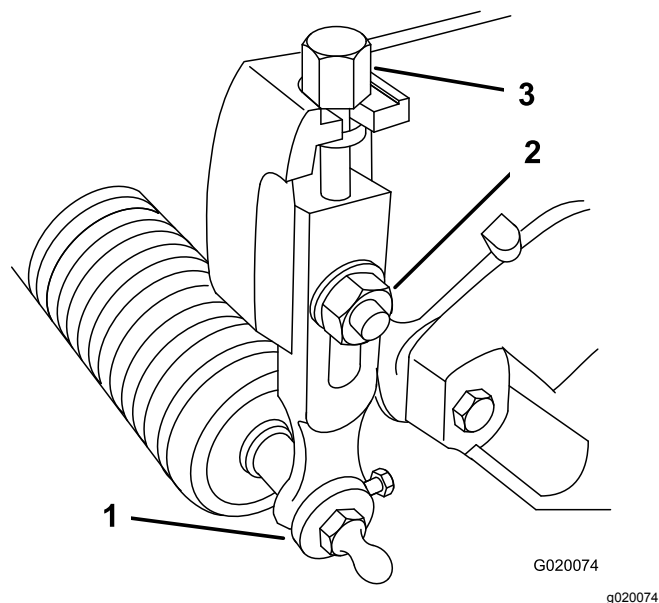

Figure 18
1. Loosen the locknuts securing the height-of-cut arms to the cutting-unit side plates (Figure 18).